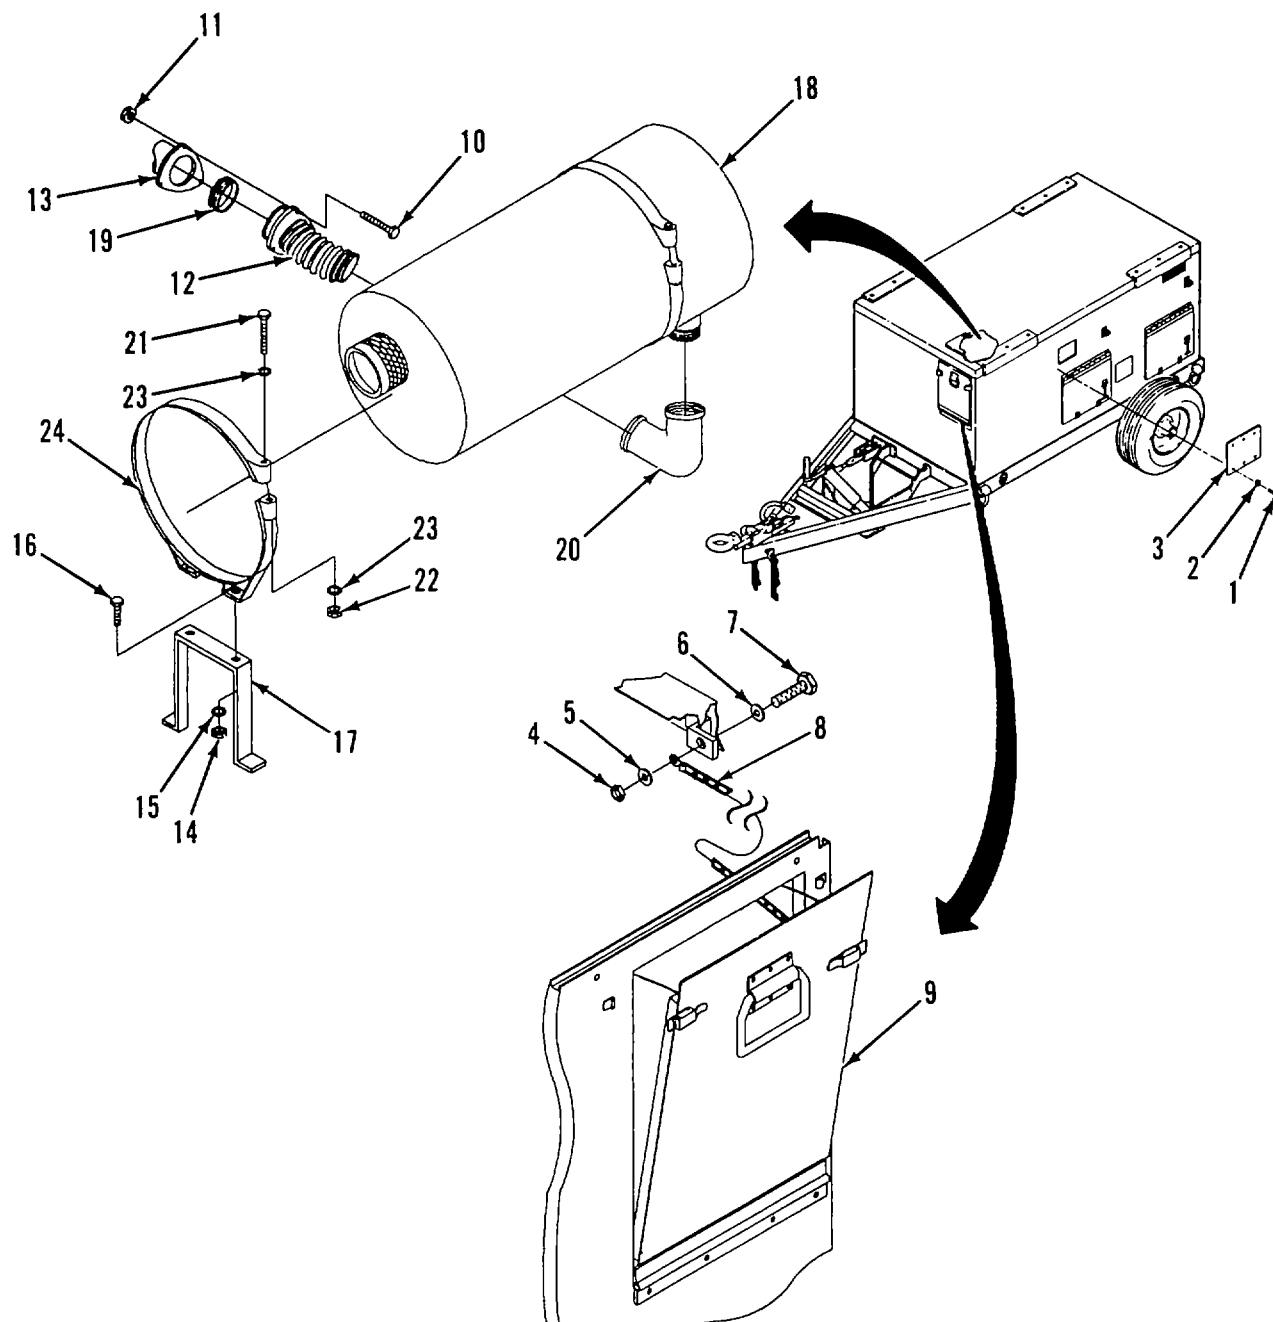

Figure 3-11. Exhaust Pipes and Muffler
a. REMOVE. (Figure 3-11)
- (1) Remove bolts (1), flat washers (2), and access plate (3).
- (2) Open hinged exhaust panel assembly (9).
- (3) Remove nut (4), flat washers (5 and 6), and bolt (7) that secures chain (8) of hinged exhaust panel assembly (9).
- (4) Lower hinged exhaust panel assembly (9) to the full open position.
- (5) Remove bolts (10) and locknuts (11) that secure flange of flexible exhaust pipe (12) to turbocharger flange (13).
- (6) Remove nut (14), lockwasher (15), and bolt (16) from each of the four muffler mounts (17).
- (7) Remove muffler (18).
- (8) Remove gasket (19).
- (9) Unscrew and remove flex exhaust pipe (12) from elbow (20).
- (10) Unscrew elbow (20) from muffler (18).